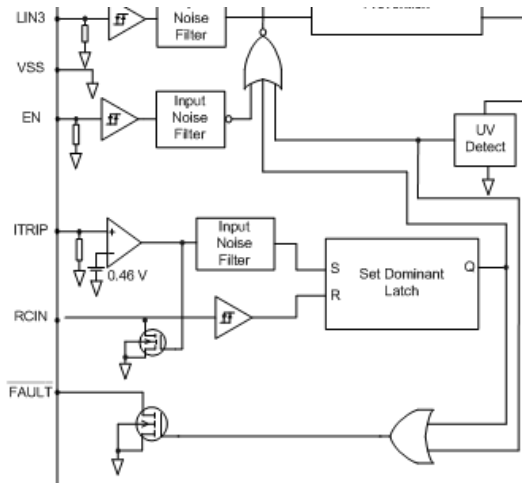

Figure 4a: Block diagram showing internal functioning of fault diagnostic and fault clear timer
The fault clear timer provides a means of automatically re-enabling the module operation a preset amount of time after the fault condition has disappeared. When a fault condition occurs, the fault diagnostic output (**FLT**) stays in the low state until the fault condition has been removed and the fault clear timer expires; once the fault clear timer expires, the voltage on the **FLT** pin will return to the logic-high voltage. Figure 4a is a block-level diagram that focuses on the fault diagnostic and fault clear timer functionality of the driver chip within the module. The fault clear timer is defined with a simple resistor-capacitor (RC) network on the **RCin** pin, as shown in Figure 4b.